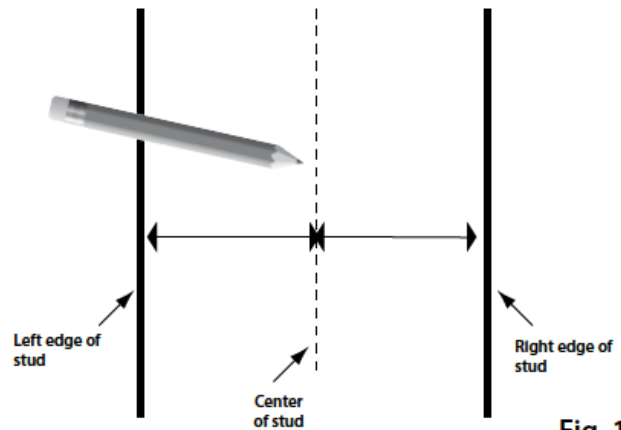

Fig. 1
- A. Use a high quality stud finder to locate one vertical stud nearest where you want to install your mount. Mark both edges of the stud and then identify the exact center (Fig 1).